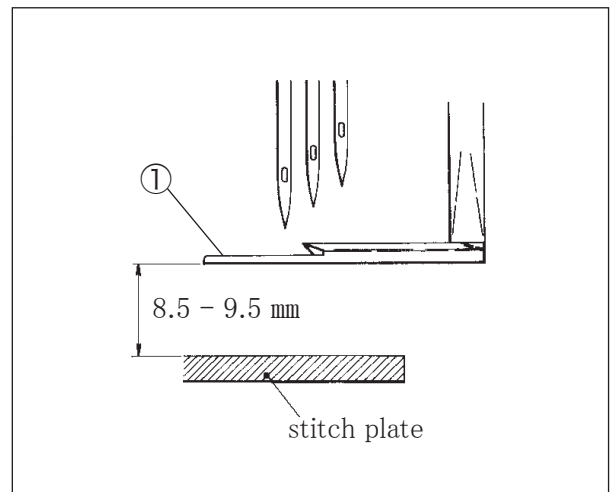

Fig. 6-9
- (4) Make the height from the top of the stitch plate to the bottom of the spreader ① to 8.5 - 9.5 mm. Then tighten the screw ③ securely. (Figs. 6-9 and 6-10)